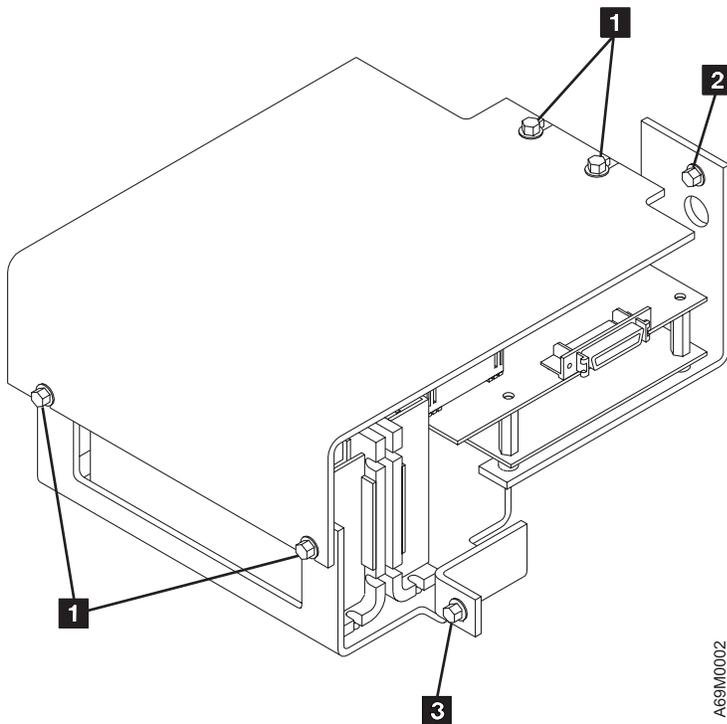

Figure 99. Motor Driver Assembly (MDA). (Shown with cover installed)
3. The MDA is located on the Y-axis assembly, near the bottom of the assembly. Refer to Figure 99 on page 567, and loosen the four screws **1** to remove the cover. **Note:** The new style MDA has only two screws on each side of the cover.
5. Refer to Figure 99 on page 567. Remove bolt **2** and bolt **3** to remove the MDA from the Y-axis assembly.